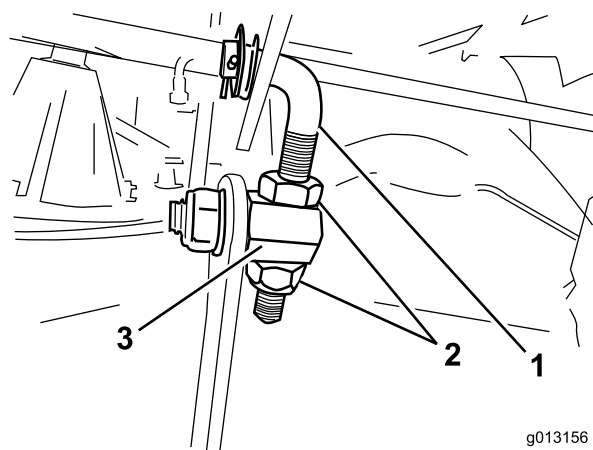
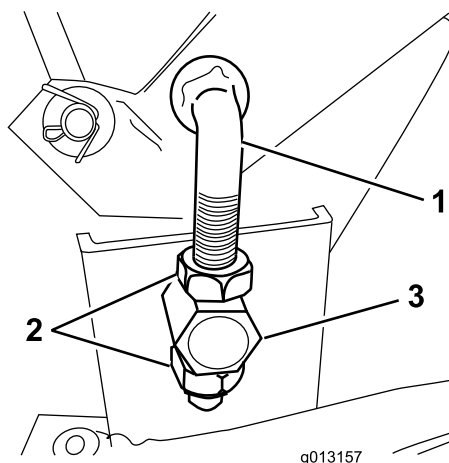

Figure 46
Figure 47
3. Loosen the nuts on the front and rear adjustable links (located on the right side of the mower) so that the links are free to move through the trunnions (Figure 46 and Figure 47).